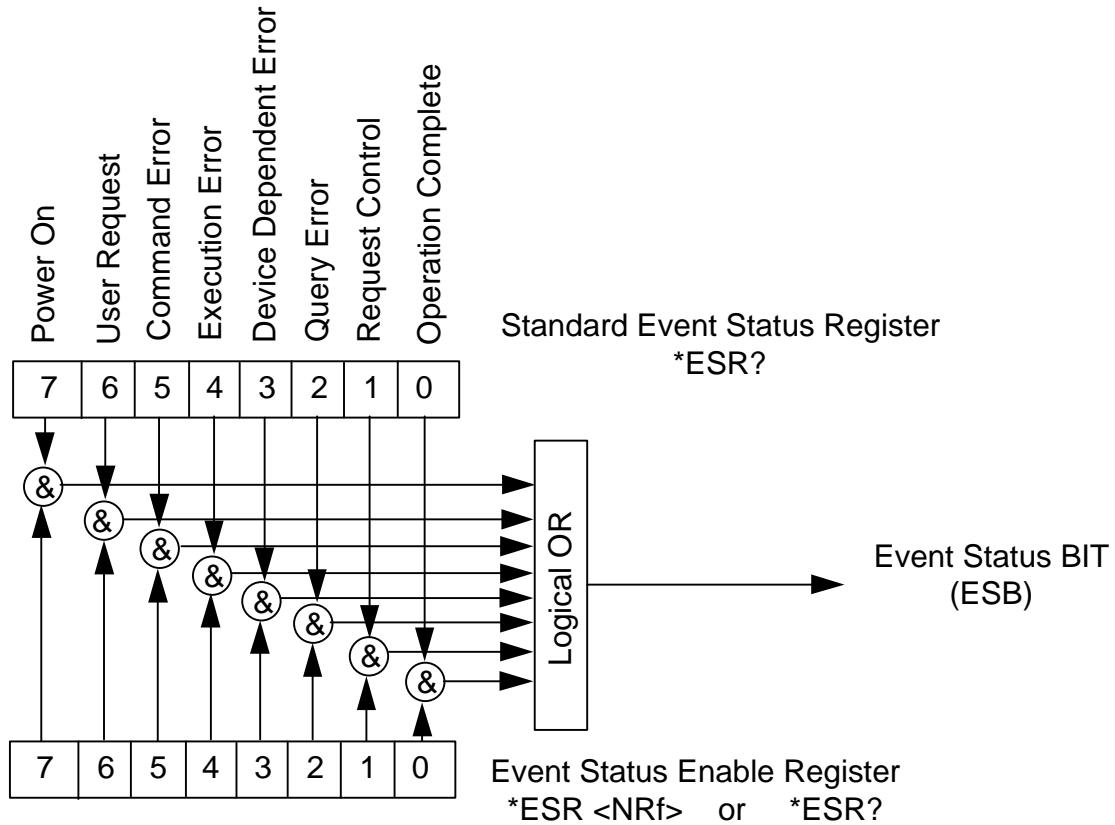

Figure 12, ESE and ESR Generation
The Event Status Bit (ESB) is set when one of the events defined in the standard Event Status Register (ESR) has occurred. The ESR is masked by the Event Status Enable register (ESE) so that the user can mask specific or all events from causing an ESB and subsequent SRQ. (See Figures 12 and 13)
a. Read Event Status Register (See Figure 12)
b. Read Event Status Enable mask (See Figure 12)
c. Set Event Status Enable mask (See Figure 12)
d. Read Status byte (See Figure 12)
e. Read Status Register Enable mask (See Figure 12)
f. Set Status Register Enable mask (See Figure 12)